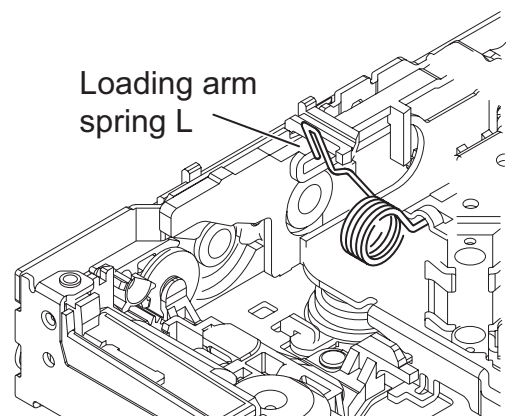

Fig.9
3.2.4 Removing the Gear base assembly (See Fig.9, 10)
- (1) Remove the Loading arm spring L. (See Fig.9)